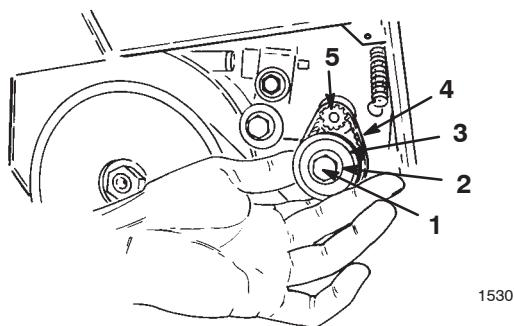

Figure 22
- Remove the 2 washers and the small pulley (Fig. 22).
- Remove and discard the small belt (Fig. 22).
- Slide the belt over the motor shaft pulley (Fig. 22).